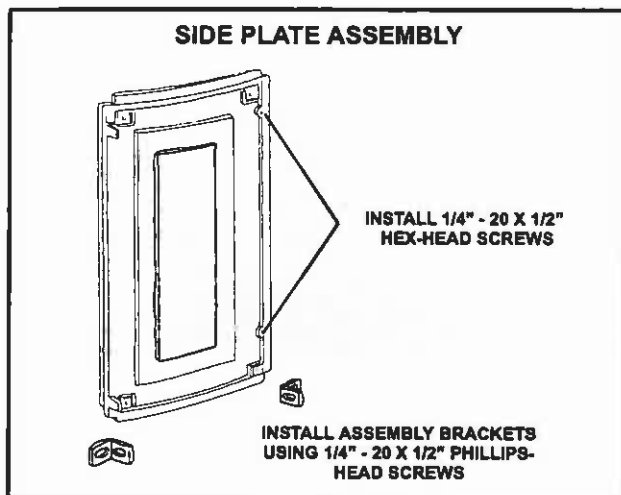

FIGURE 10
- 8 - Locate the two side plates and use 1/4" - 20 X 1/2" Phillips-head screws to install two assembly brackets on the bottom corners of each plate as shown in figure 10. Install a 1/4" - 20 X 1/2" hex-head screw in each of the two holes along the rear edge of each of the side plates. Tighten the screws, then back them out just enough to accommodate the thickness of the back panel (approximately 1/16").